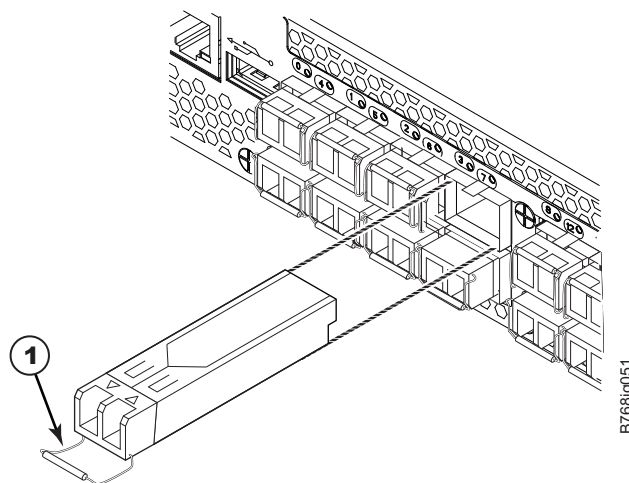

Figure 42. Replacing an optical transceiver
2. Pull the bail (wire handle) **1** away from its pivot point and out, sliding the transceiver out of the port (Figure 42).